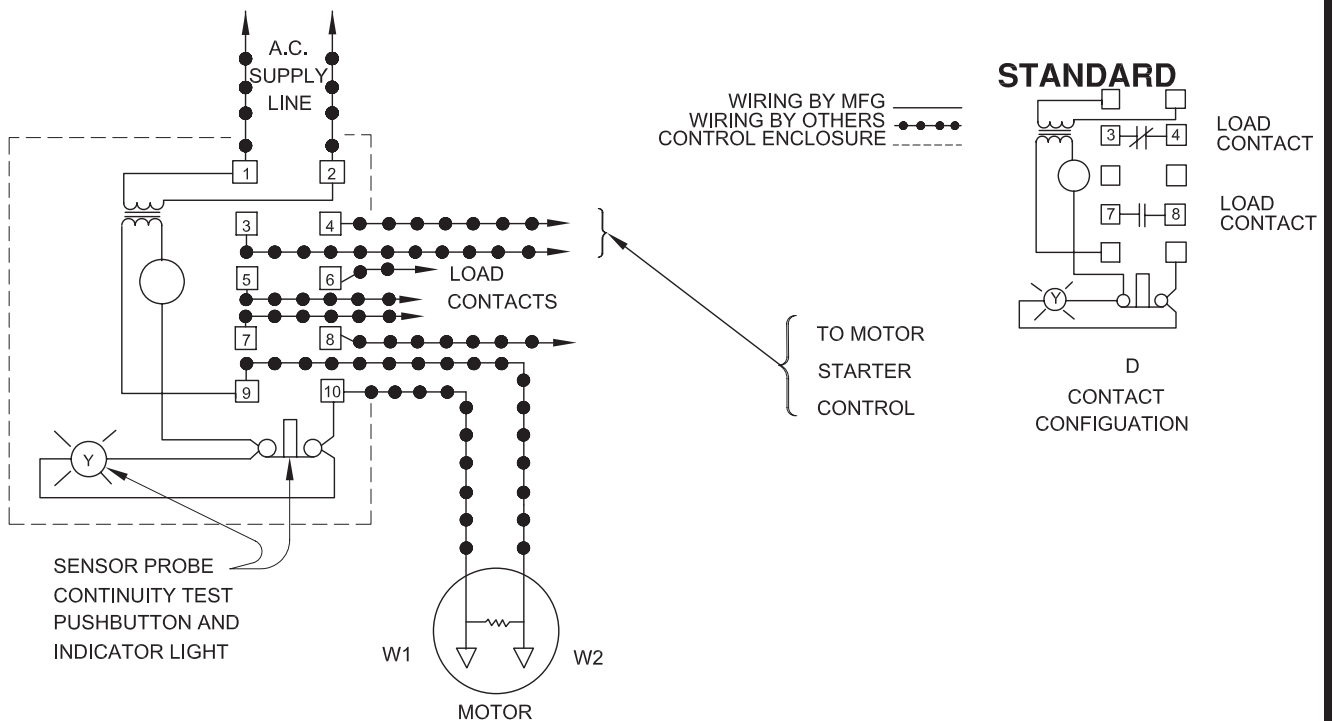

FIGURE 5
- c. A moisture detection circuit with continuity test circuit (See Fig. 5)
To expose outer shaft seal (4) for examination, remove Impeller and Volute per Section F-1.1. Set motor assembly (1) in the inverted position to prevent loss of oil. Remove snap ring from motor shaft, then retaining ring (5), spring (4C) and rotating member (4B) from shaft, See Figure 5 Examine all seal parts and especially contact faces. Inspect seal for signs of wear such as uneven wear pattern on stationary members, chips and scratches on either seal face. **DO NOT** interchange seal components, replace the entire shaft seal (4). If replacing seal, remove stationary (4A) from mounting plate by prying out with flat screw driver.